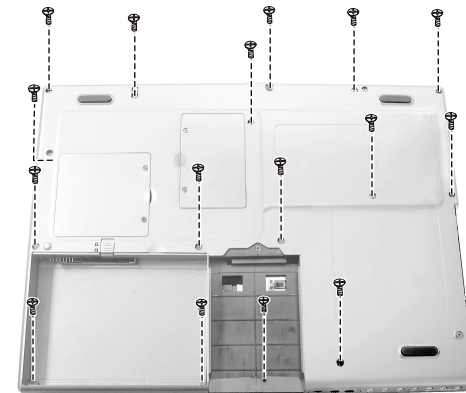

Figure 2-18 Remove the seventeen screws
3. Carefully put the notebook upside down. Remove seventeen screws on the bottom of the notebook. Then detach the housing. (Figure 2-18)